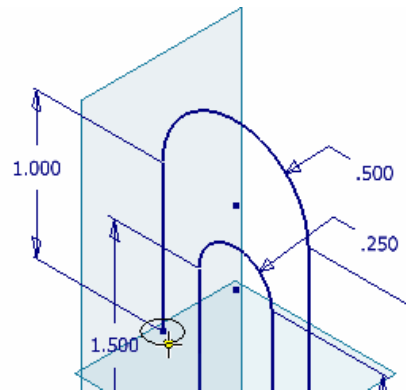

Figure 3b
- Draw a diameter .125 circle at the projected point. (Figure 3b)